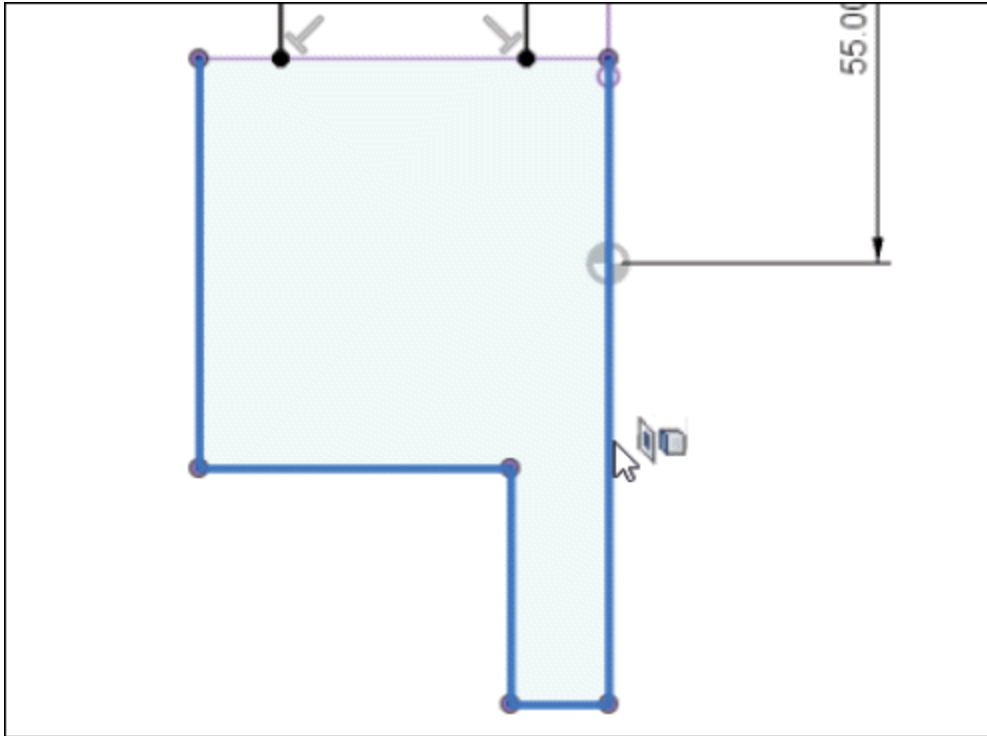

Figure-53. Selecting intersected geometry
- Select the intersected geometry by pressing **CTRL** key and right-click; refer to Figure-53. A **Marking Menu** will be displayed.